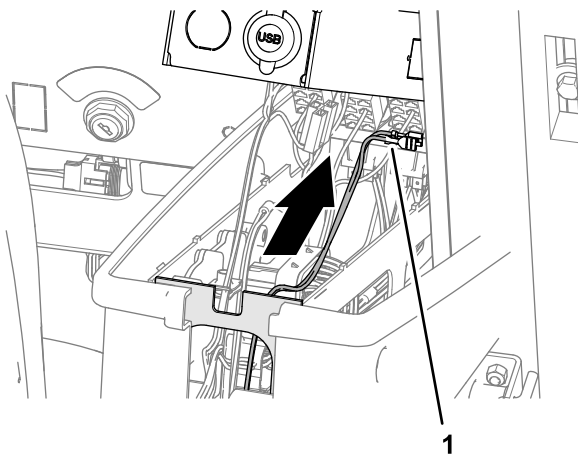

Figure 61
3. Route the wire harness branch labeled REMOTE ENGAGE SWITCH) toward the arm panel (Figure 61).